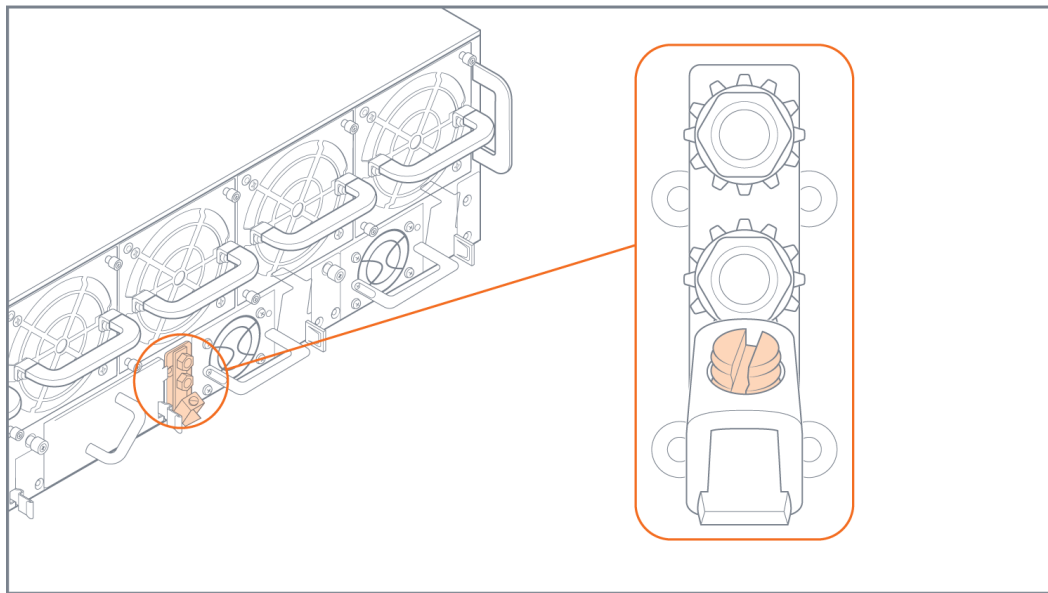

Figure 1 Grounding Lug on Rear of GigaVUE-HC3
1. Locate the grounding lug at the center rear of the chassis. Refer to Figure 1 Grounding Lug on Rear of GigaVUE-HC3 (or Figure 2 Rear View of the GigaVUE-HC3 Chassis) for the location on a GigaVUE-HC3 node.